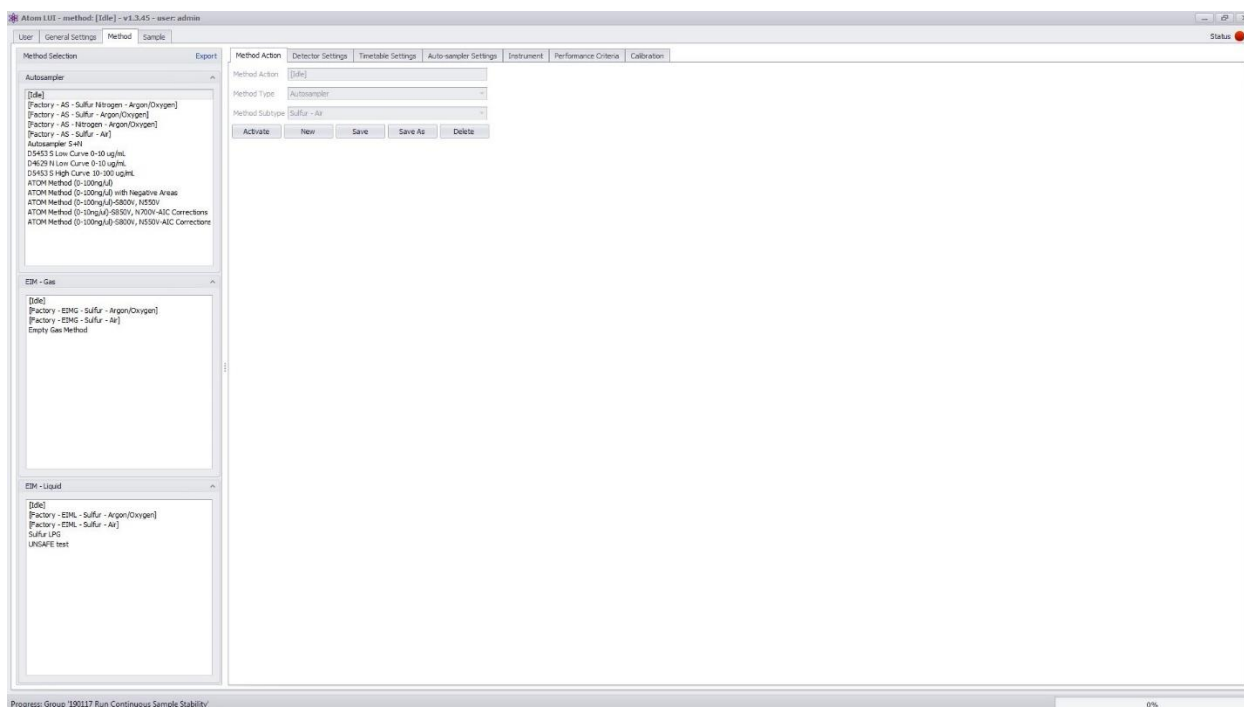

Figure 16 Method Tab
- Select the “Method” tab (*Figure 16*)